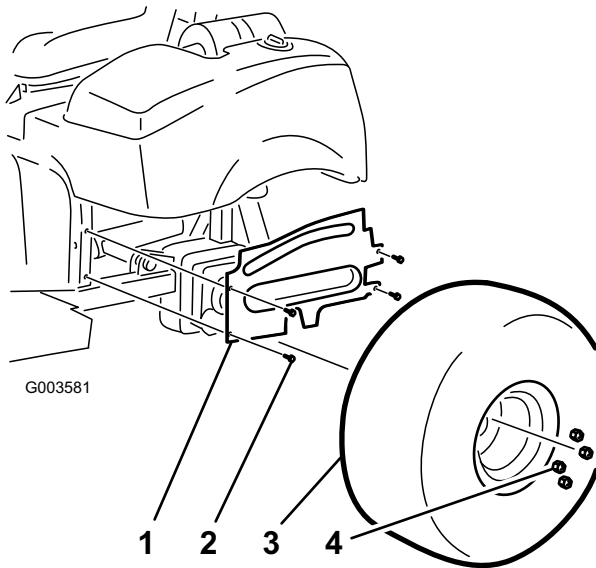

Figure 8
7. Install the left-hand wheel shroud to the frame with the flange-head screws previously removed (Figure 8).
8. Install the left rear tire (Figure 8).